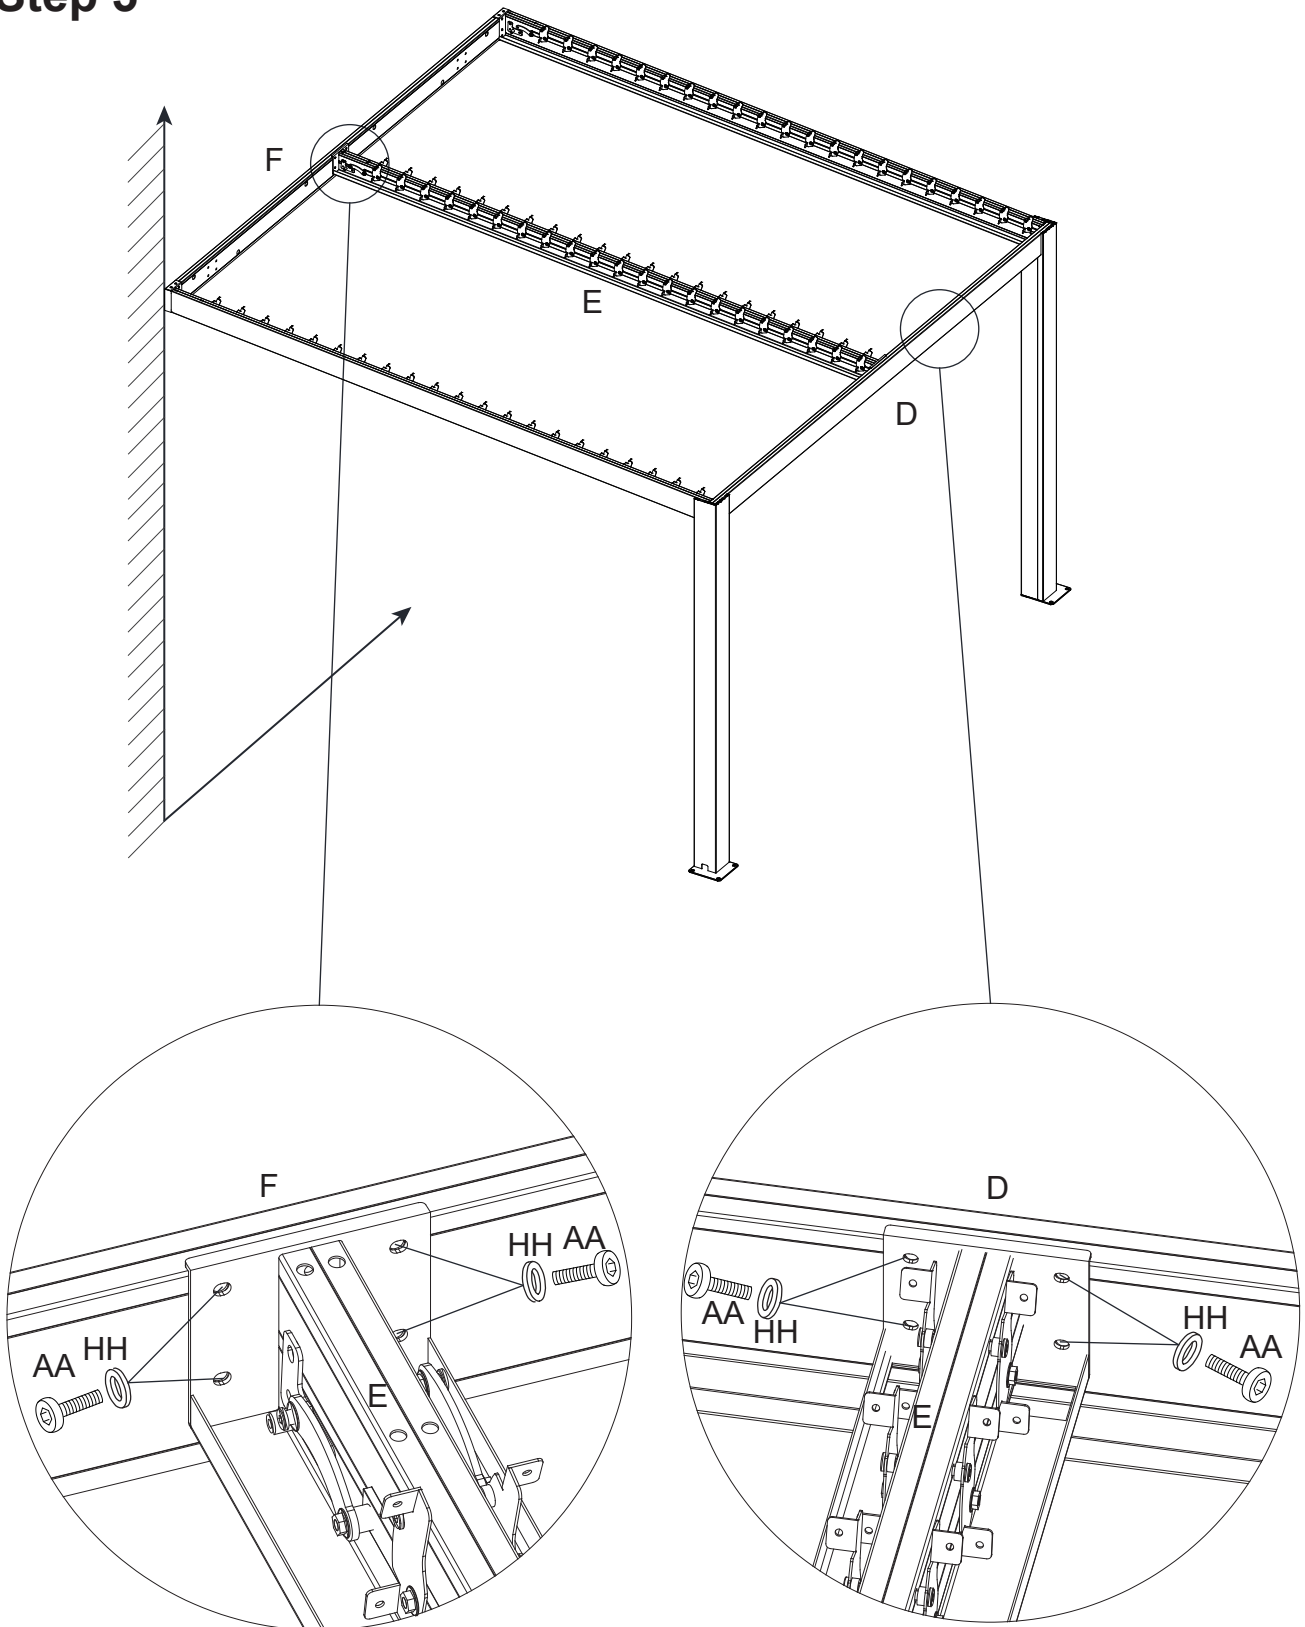

Figure 5
5. Connect the Middle Lintel (E) to the Front Lintel (D) on one end and the other end to the Rear Lintel (F), securing them together with Bolts (AA) and Spacers (HH). See Figure 5.